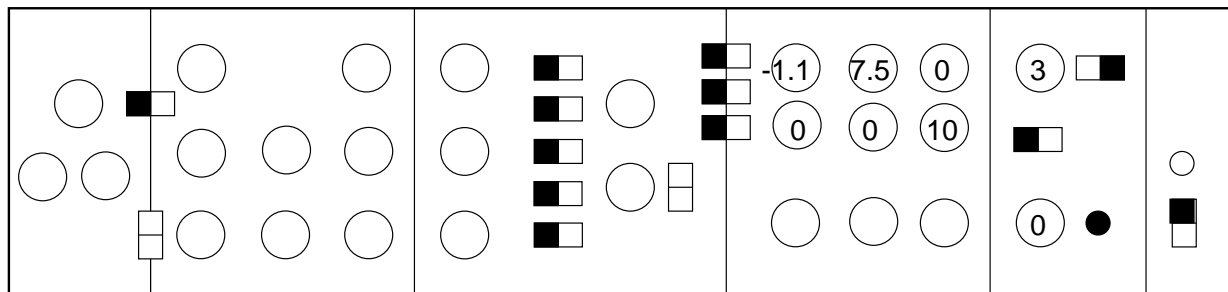

Figure 2
1. Set the front panel controls as shown in Figure 2.